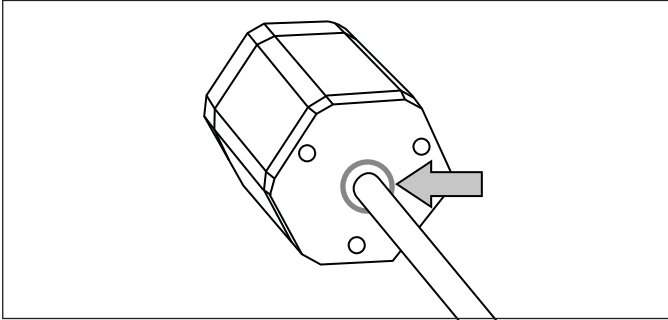

Fig. 23: Correct position of the O-ring in the groove of the sensor electronics housing
- Ensure that the O-ring seal (part no. 562 003) is correctly inserted in the groove on the sensor electronics housing before inserting the base unit into the support tube and attaching the sensor electronics (Fig. 23).
- Ensure that the O-ring seal (part no. 562 003) is correctly inserted in the groove on the sensor electronics before inserting the base unit into the support tube or the HFP profile and attaching the sensor electronics (Fig. 23).